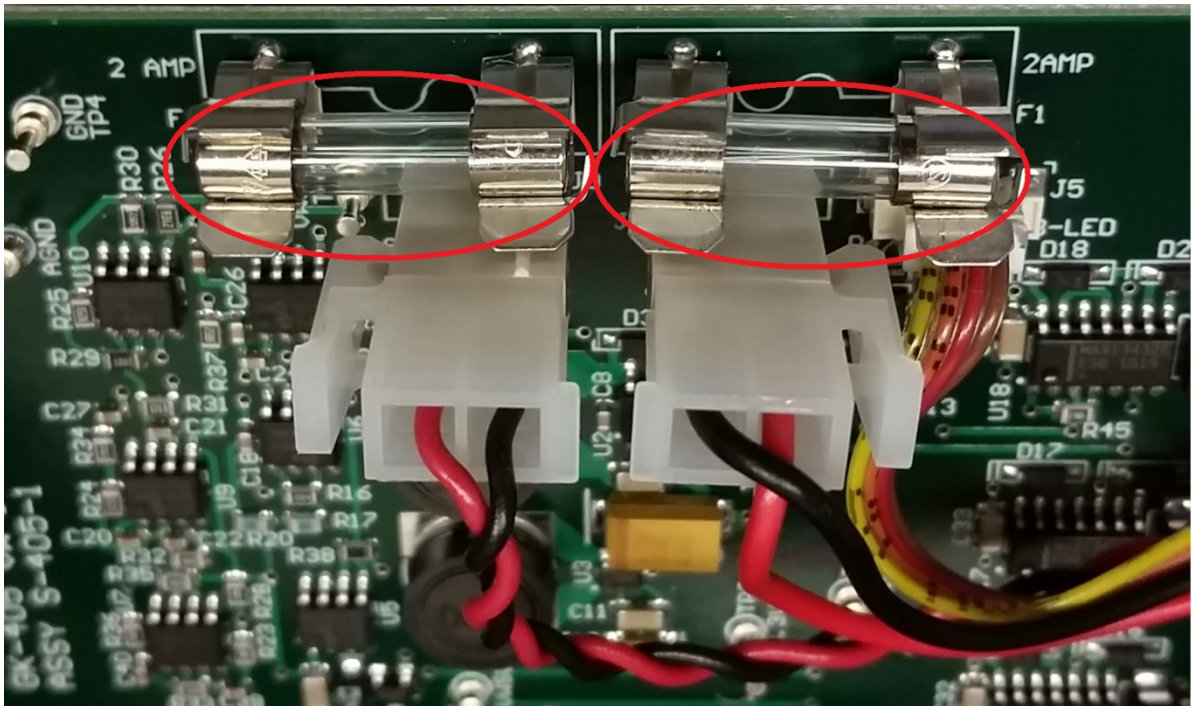

Figure 88 - Fuse Location
- 3) Turn the faceplate over and locate the fuses on the circuit board (Figure 88).